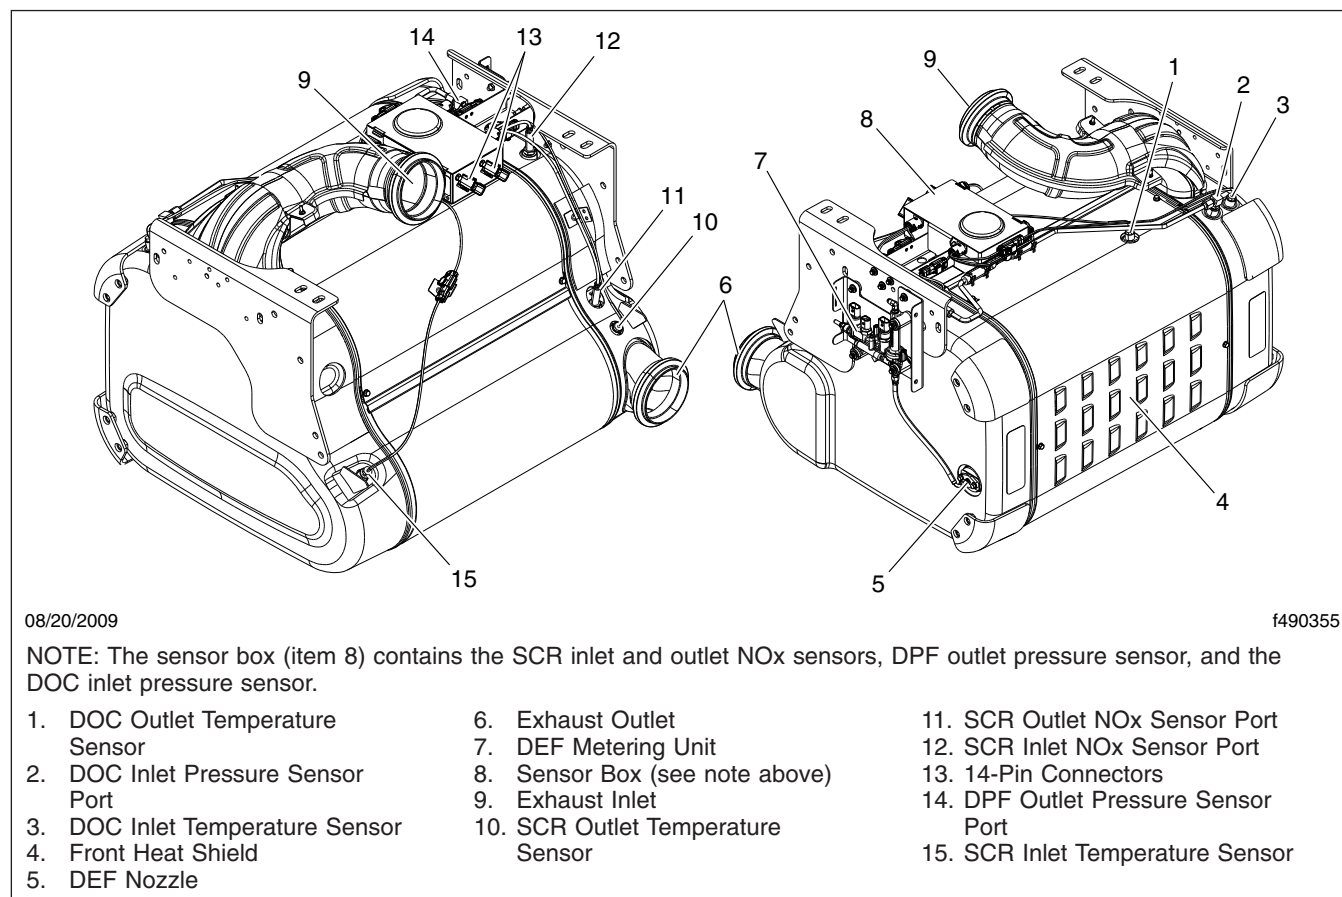
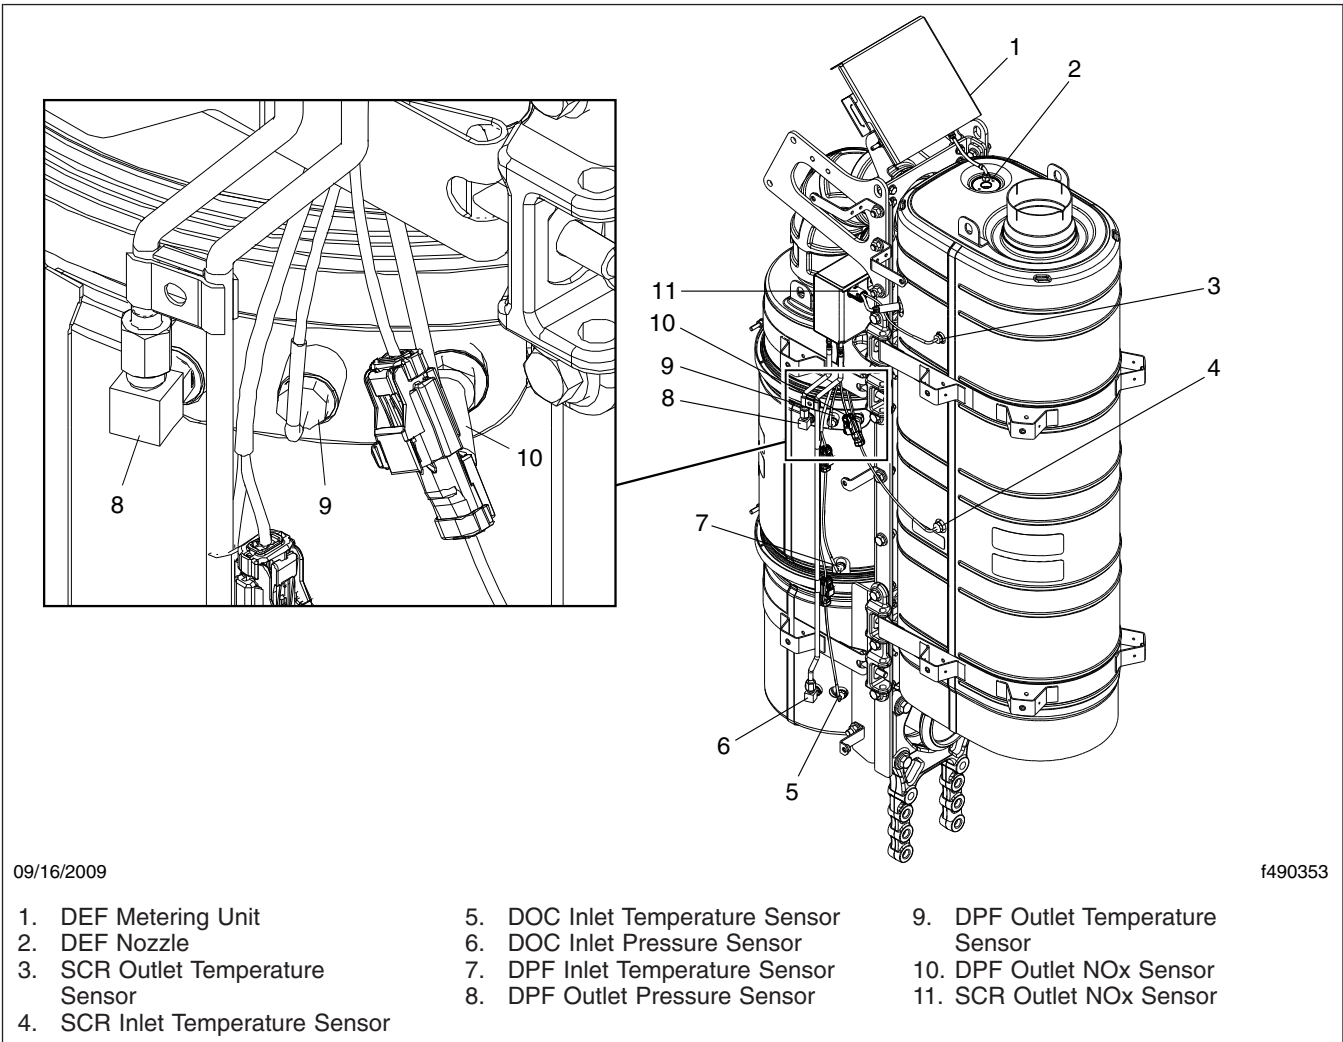
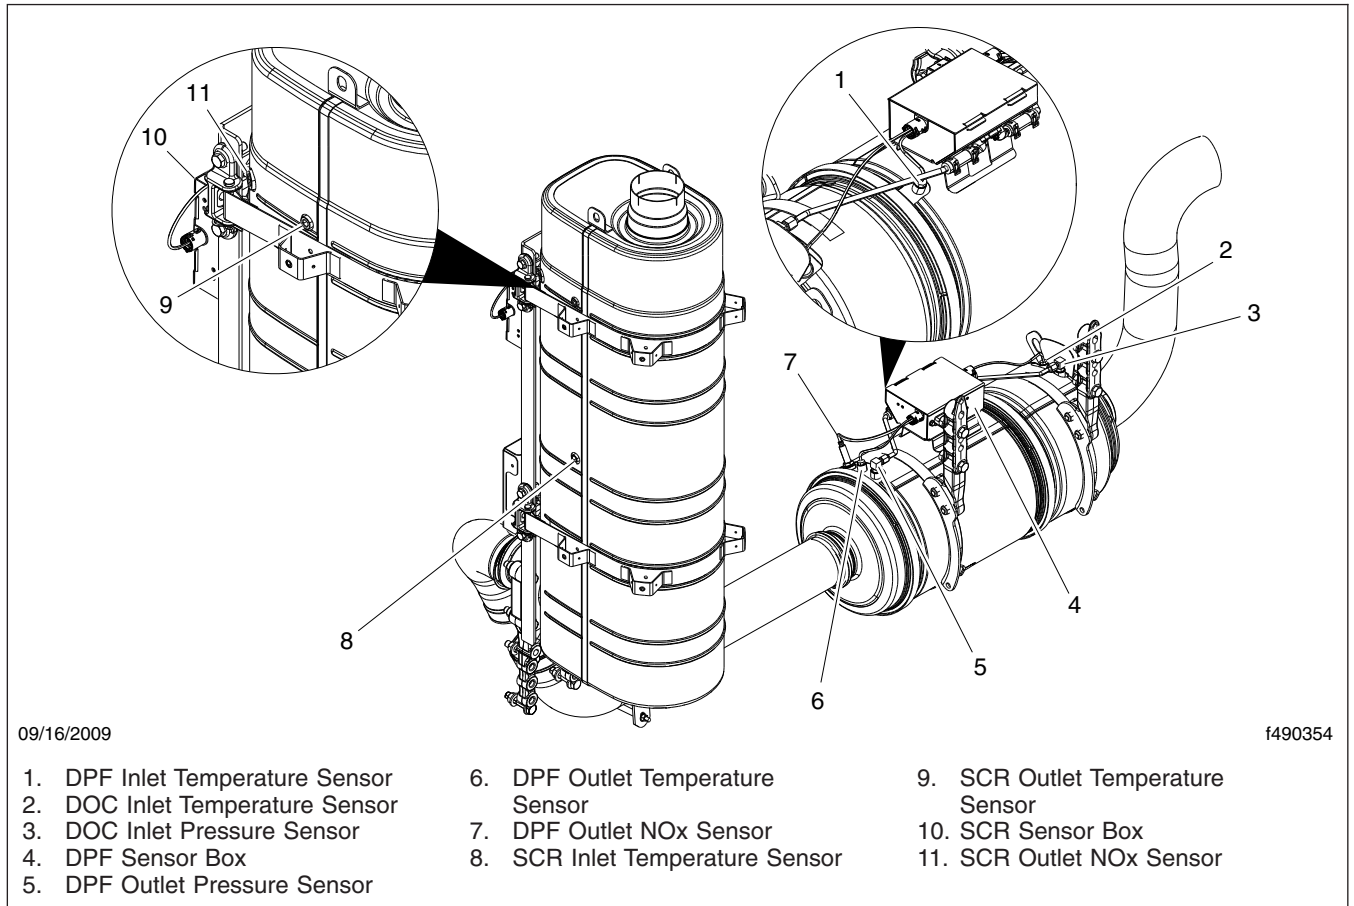

Fig. 1, One-Box ATS Sensor Locations (EPA10)
Fig. 2, 2V2 Two-Box ATS Sensor Locations (EPA10)
Fig. 3, 2HV Two-Box ATS Sensor Locations (EPA10)
6. Check all sensors attached to the ATS for leaks or damaged wires. No leaks are allowed. See **Fig. 1**, **Fig. 2**, or **Fig. 3** for Detroit Diesel ATS sensor locations.